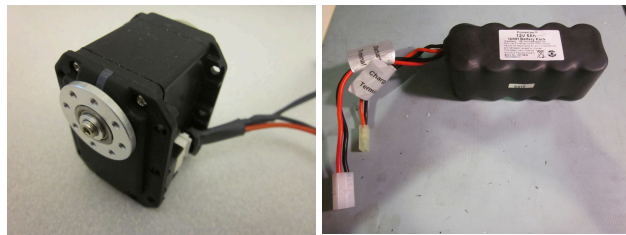

Figure 4: Motor (left) and battery (right)
- **Level 1:** Two **wheels** are controlled by separate **motors**. A **battery** (see also Figure 4, right), and an **omni wheel** (not controlled by motor) are mounted in the rear.
- **Level 2:** This level includes the **arm** with three joints, the gripper, the arm's four **motors** (one for the gripper) (Figure 4), two **bump switches** in the front, and an **IR sensor** for distance detection on the right. We will not use the bump switches or the IR sensor today.